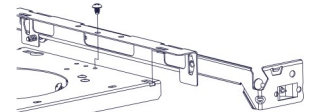

Fig. 4
3. Insert bracket tab thru slots (left or right slot) and slide until it stops (Fig 4). Secure to housing with screw